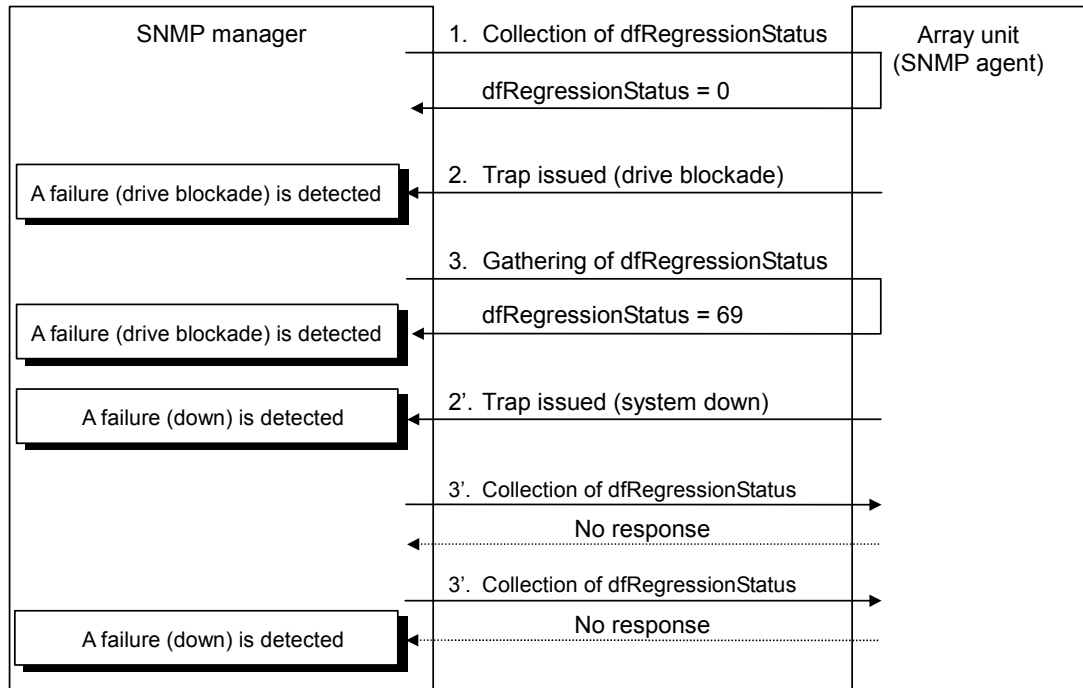

Figure 5.9 SNMP Manager TRAP Response Failure Detection
2. If an error occurs that results in a trap, the array unit reports the error to the SNMP manager. This trap normally allows the user to detect array unit failures immediately when they occur; however, the UDP protocol used cannot assure that the trap is correctly reported to the SNMP manager. If a controller goes down, the systemDown trap may not be issued (Figure 5.9).